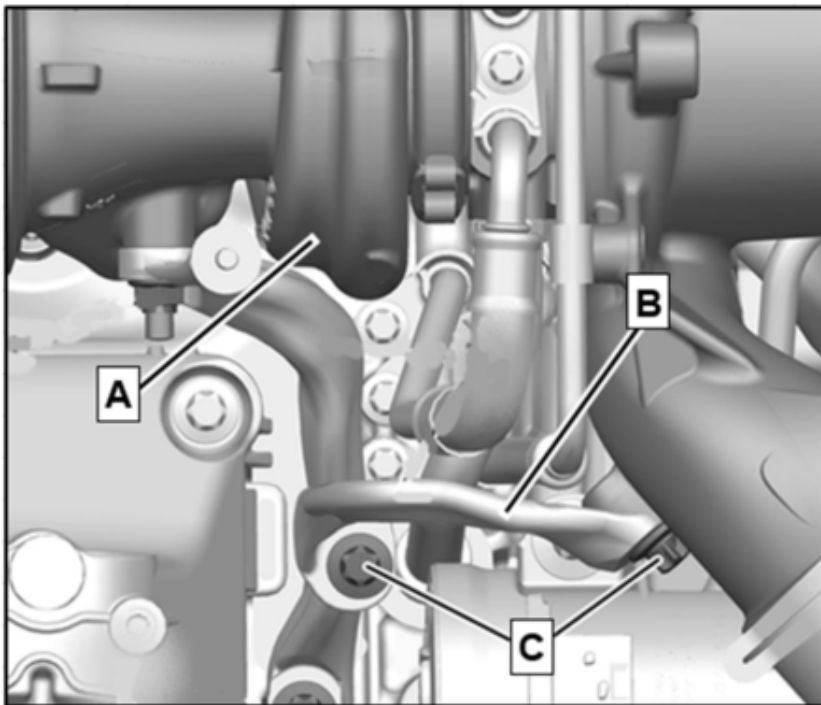

Figure 1
4. Underneath the exhaust gas turbocharger (**A, figure 1**), unscrew the screws (**C, figure 1**) and remove the bracket (**B, figure 1**) (in model 205, 213, and 253 **with M264**).